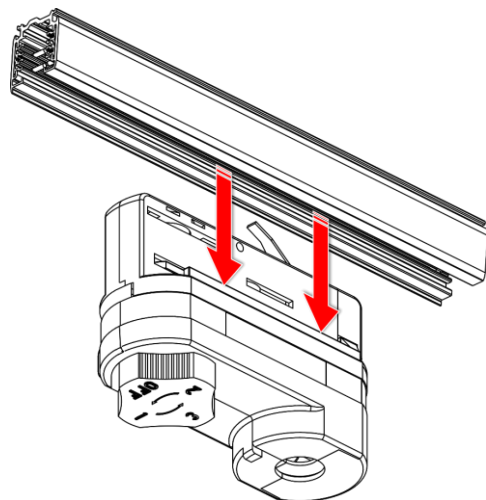

Fig. 14
- 05) Pull the **track adapter (01)** from the track (see Fig. 14).